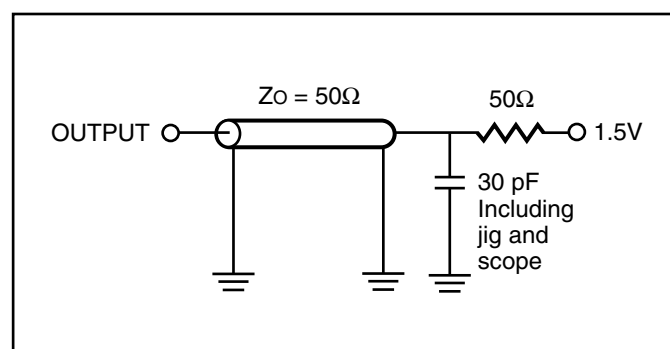

Figure 1.
- Test conditions assume signal transition times of 5 ns or less, timing reference levels of 0.9V/1.5V, input pulse levels of 0.4 to $V_{DD}-0.2V/0.4V$ to $V_{DD}-0.3V$ and output loading specified in Figure 1.
- Test conditions assume signal transition times of 5 ns or less, timing reference levels of 0.9V/1.5V, input pulse levels of 0.4 to V_{DD}-0.2V/0.4V to V_{DD}-0.3V and output loading specified in Figure 1.